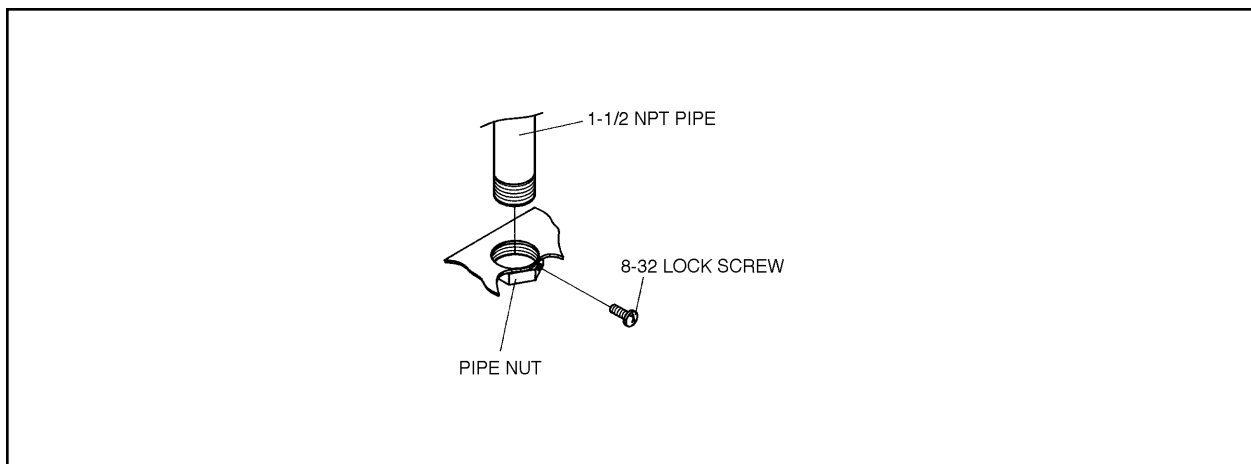
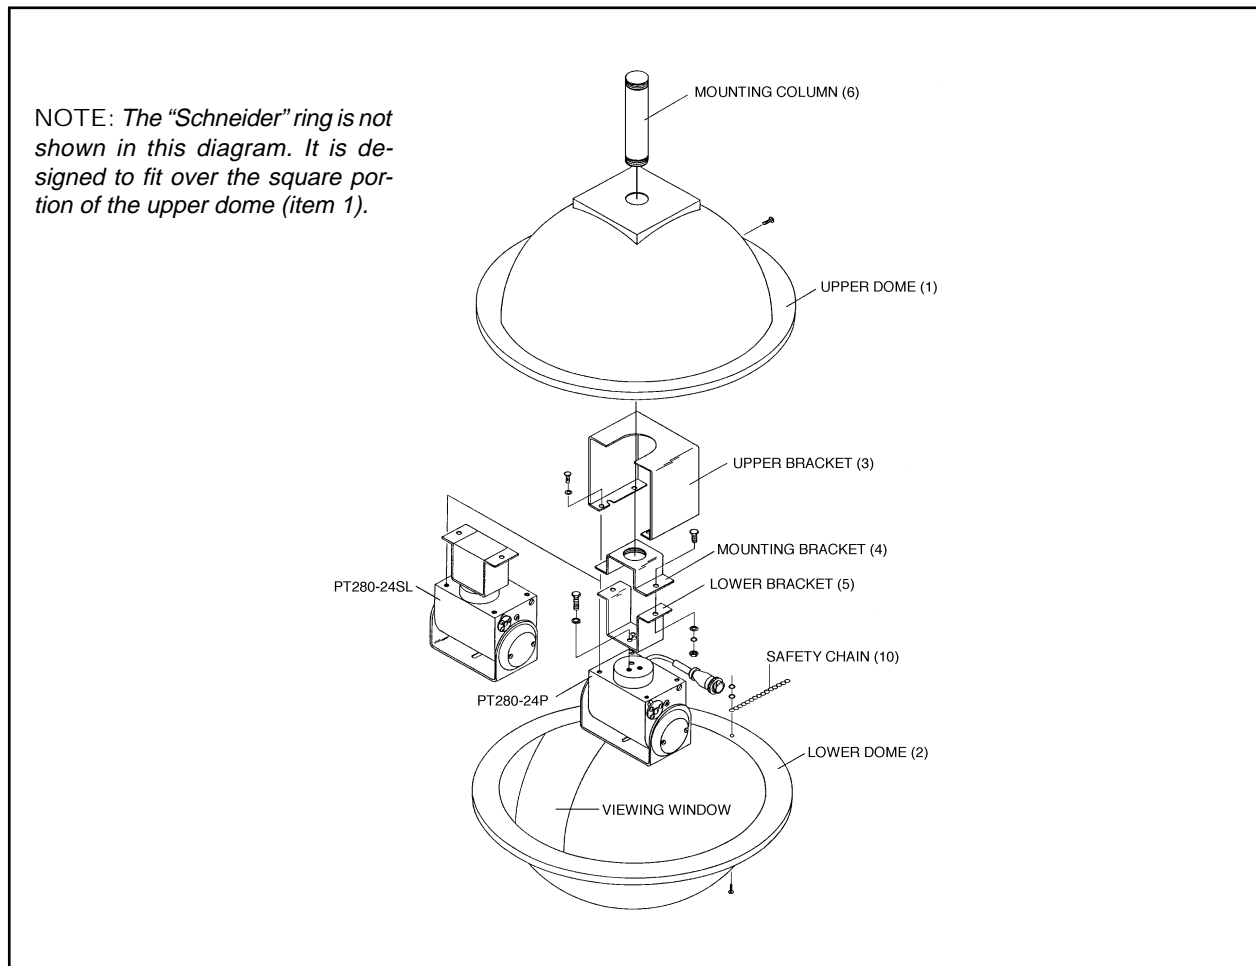

Figure 4. Locking the Pipe Nut
Figure 5. SS3000 Exploded Assembly Diagram
2. Screw the mounting flange (item 4, Figure 5) onto the pipe and tighten to approximately 20 ft lb. Tighten the 8-32 screw in the pipe nut to lock the pipe threads (refer to Figure 4).
3. Align the three-hole pattern in the pan spindle (PT280-24P) with the holes in the lower bracket (item 5, Figure 5) and attach with 1/4-20 x 5/8" hex head bolts and lock washers provided. Tighten firmly.
4. Assemble the lower bracket and pan/tilt to the mounting flange (item 4, Figure 5) using 1/4" x 5/8" hex head bolts, flat washers, and hex nuts provided.
5. Attach the upper (drive) bracket (item 3) to the bottom (spindle side) of the pan/tilt using four (4) 10-32 x 1/2" pan head screws and lock washers provided. Refer to Figure 5 for proper orientation.
Table A. SS3000 Exploded Assembly Diagram (Corresponds to Figure 5)
Table B. Parts for SS30 Fixed Mount Dome Only (Not Shown in Figure 5)